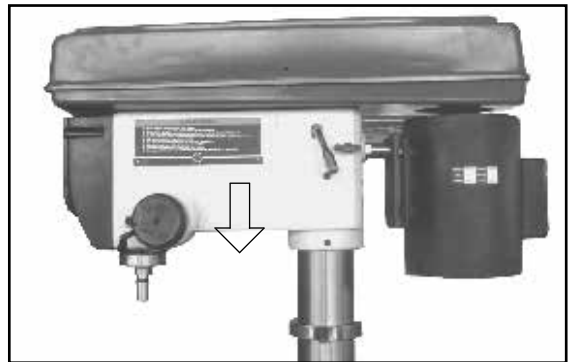

Figure 6
1. Place the drill press head onto the column as far as it will go (Figure 6). Align the drill press head with the base of the drill press.